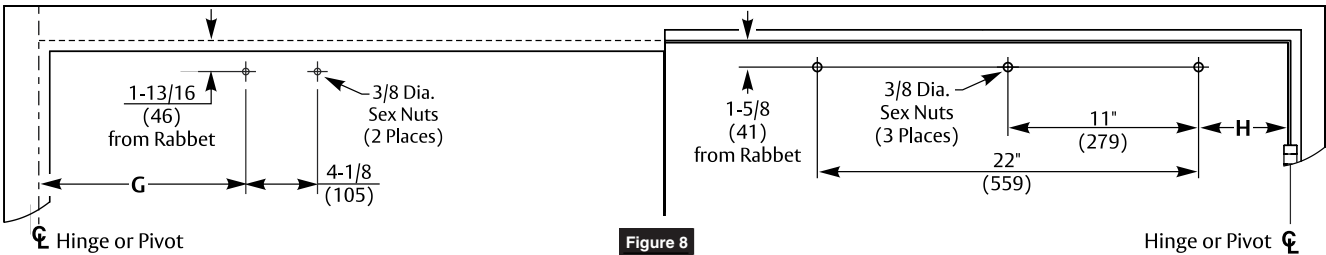

Figure 8
1. Locate and prepare track holes in door. (Figure 8)
3. Locate and prepare arm shoe holes in door. (Figure 8)